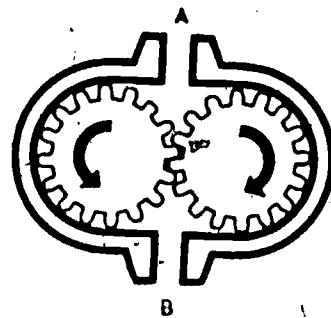

Figure 4D.-Simple gear pump.
- 4-60. Assume that the gear pump of figure 4D is used for lubricating oil service. How does the oil pass through the pump?